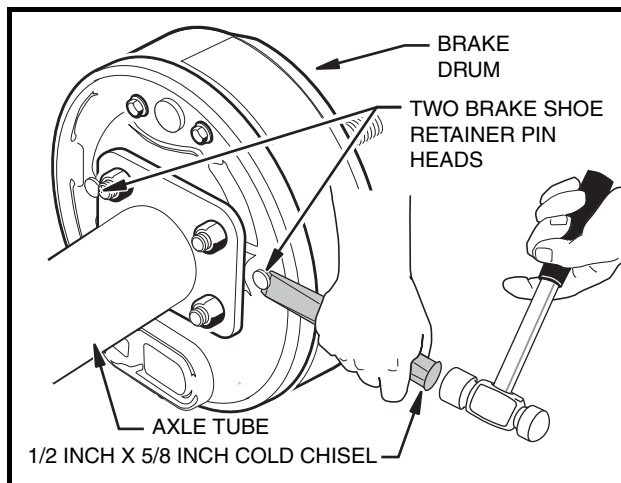

Figure 6-2 Shoe Retainer Pins
- 4.2. Insert a 1/2 x 5/8 inch cold chisel under the head of each pin and shear them off as illustrated (**Figure 6-2, Page 6-2**). This will release the shoes from the backing plate, allowing them to pivot away from the inside of the brake drum and allow the brake drum to be pulled free. After completing step 5, skip step 6.